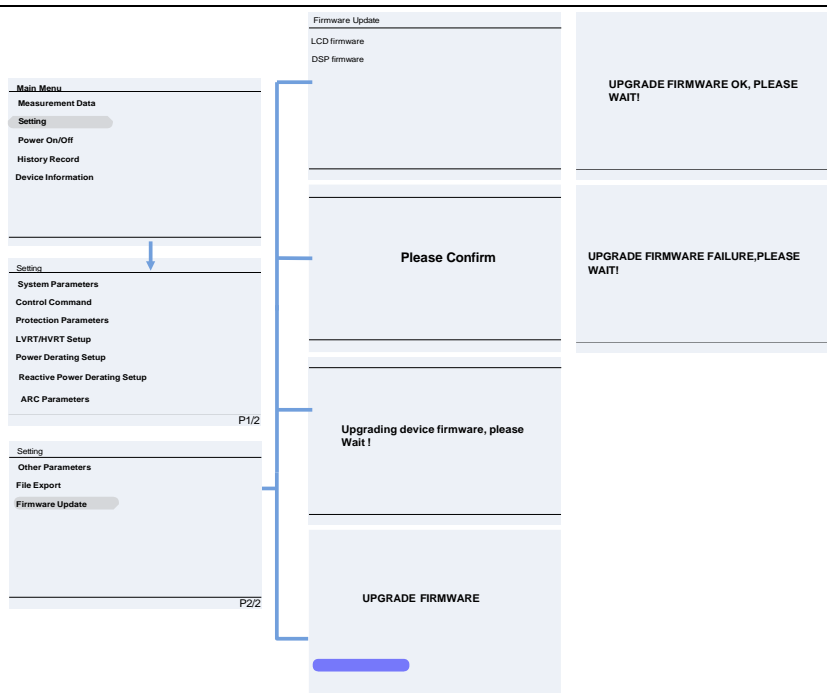

Figure 6-24 Firmware Upgrade Interface
4. Using the password to enter the **Setting** menu and select **Firmware Update**. Choose the firmware to be updated (LCD or DSP) and follow the prompts on the screen. See Figure 6-24.